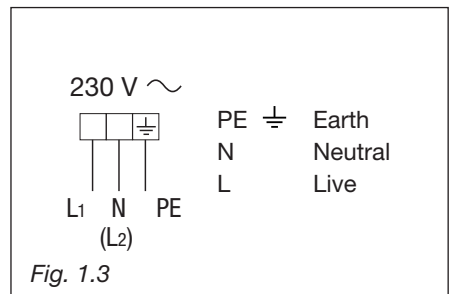

Fig. 1.3
- Connect the phase and earth cables to the terminal block “B” according to the diagram in figure 1.3.